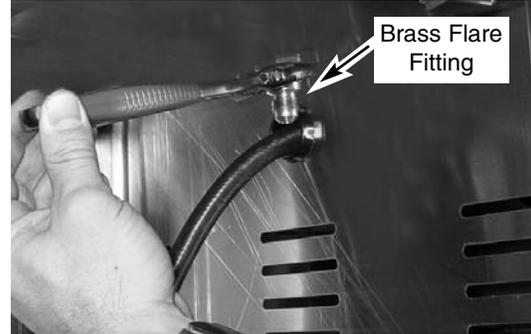

Fig 21
2. Remove the brass flare fitting from the gas pipe (Fig. 21).